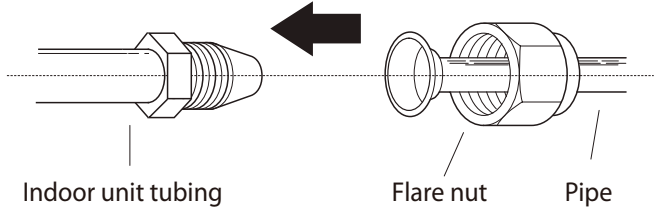

Fig. 5.7
1. Align the center of the two pipes that you will connect. See Fig. 5.7